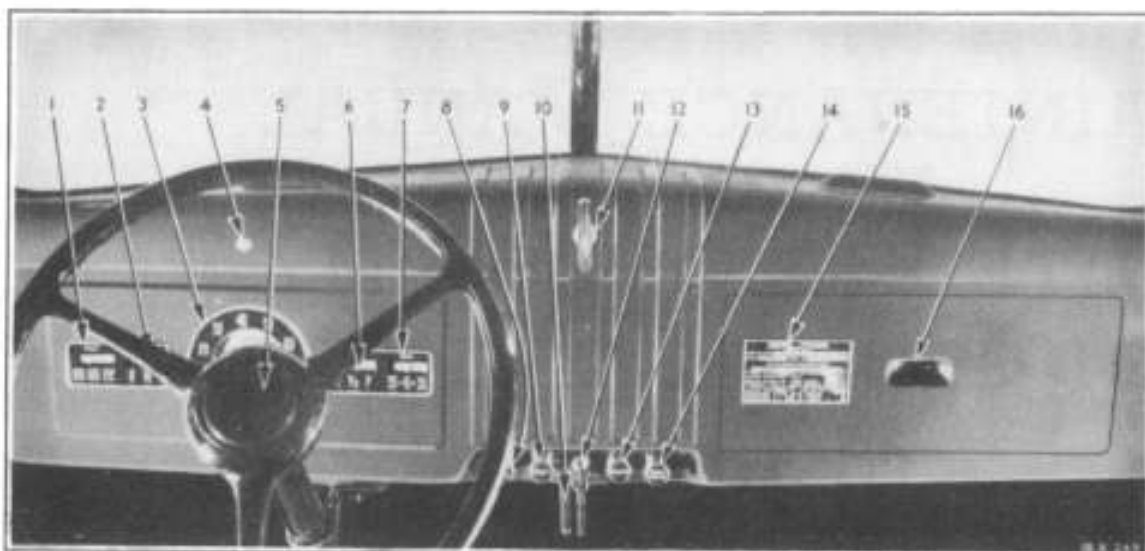
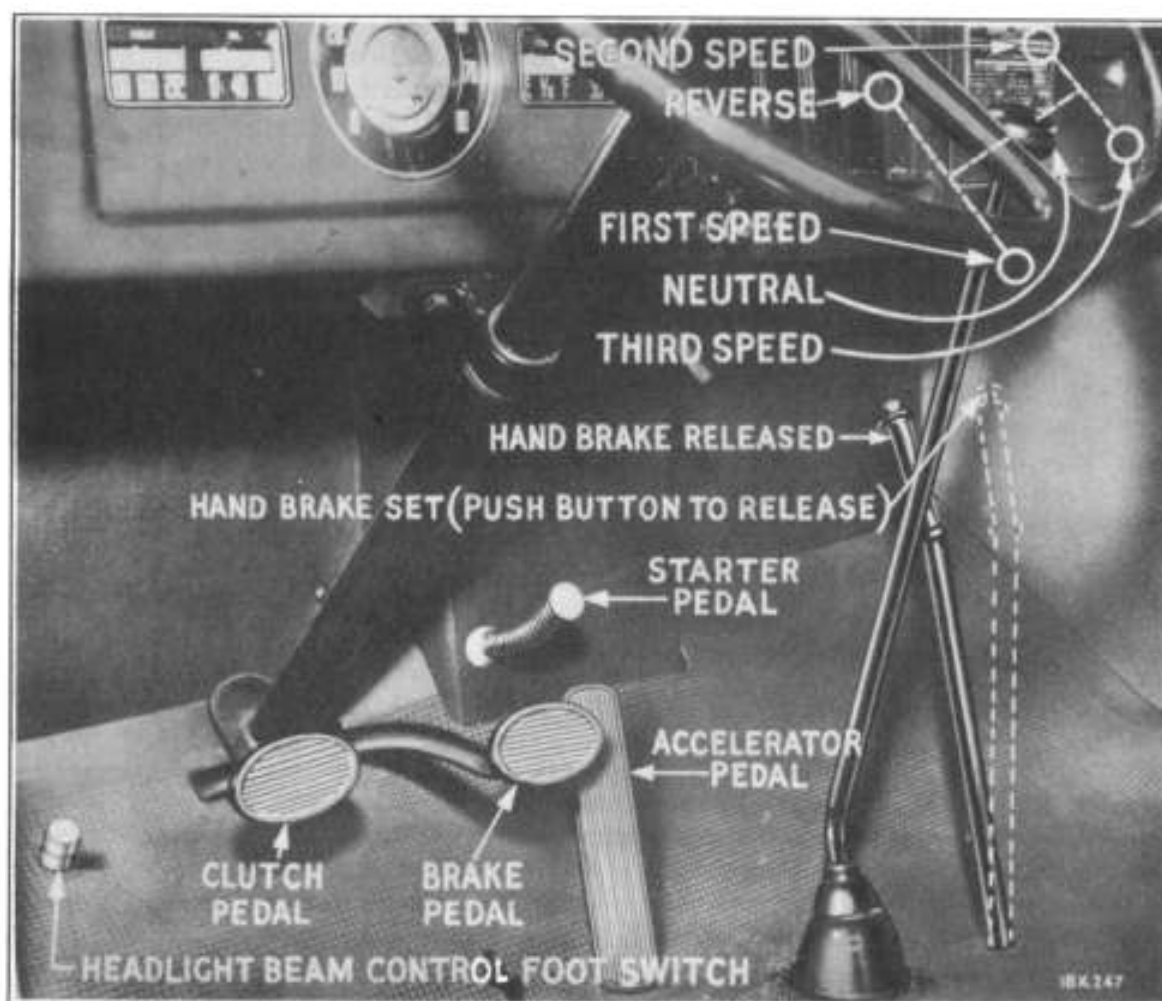

Fig. 1—Instrument Panel
Fig. 2—Front Compartment
The accompanying illustrations (Figs. 1 and 2), show the location of each control. By knowing the purpose of each control and how to use it, the driver who is unaccustomed to driving a Dodge 4 x 2 Army Truck will find it easier to follow the "Operating Instructions" contained in this section of the Manual.
The ignition lock switch (12, Fig. 1), can be operated only when the key is inserted and turned to the right (clockwise). In this position the ignition and fuel gauge circuits are connected. The key cannot be removed unless the thumb piece of the key is vertical.
The choke control button (9, Fig. 1), closes the choke when the control button is pulled "out" to the limit of its travel. Pull the choke control "out" when starting a cold engine and gradually push it in as the engine becomes warm. Always run the engine with the choke button pushed in after the engine has reached normal operating temperature. Excessive use of the choke causes a flooding condition in the engine and excess fuel works its way past the pistons into the crankcase diluting the engine oil. It also increases fuel consumption unnecessarily.
The hand throttle control button (13, Fig. 1), is for use when starting the engine. It can also
The accelerator pedal (Fig. 2), is used to control engine speed with the foot while driving the truck.
This foot pedal (Fig. 2), is for operating of the starting motor which cranks the engine. It is located above the accelerator pedal so that it can be easily reached for starting the engine.
Pressing the clutch pedal (Fig. 2), down to the floor board, disengages the clutch so that the transmission gears may be shifted.
This lever (Fig. 2), controls the shifting of all gears in the transmission. The diagram in the illustration shows the different positions of the lever for various gear selections in the transmission.
The hand brake (Fig. 2), is used principally for holding the truck while parked. When parking on a grade, turn the front wheels off the straight-ahead position. The hand brake is released when the lever is in the extreme forward position and applied when moved back toward the seat. When pulled back, the lever will lock in position but may be released by pressing the release button (on top of the lever) down and pushing the lever forward.
The brake pedal (Fig. 2), is used to slow down or stop the vehicle. See Subject 24.
This switch (8, Fig. 1), controls the headlights, parking lights and tail light. Pull button out to its first stop to turn on parking lights and tail light. When the button is pulled all the way out to the limit of its travel, the main headlights and tail light are turned on.
The instrument panel lights may be turned on by pulling this switch (14, Fig. 1), out to the limit of its stop.
This foot switch (Fig. 2), controls the high and low beams of the headlights. (The switch operates only when the headlights are turned on by the hand operated switch on the instrument panel.) Press the button with the foot to raise or lower the headlight beams. The switch locks each time the button is pressed. A red indicator (4, Fig. 1), on the instrument panel is illuminated only when the high beam is turned on.
The oil pressure gauge (2, Fig. 1), should register about 15 pounds pressure when the engine is running at slow idle speed, but at speeds above 30 miles per hour, the gauge should show from 30 to 45 pounds pressure.
The ammeter (7, Fig. 1), registers rate of charge or discharge of the battery. In other words, it indicates the charging condition of the generator and the consumption of electricity in the system. When the electrical units are drawing more electricity than the generator is charg-
The heat indicator (1, Fig. 1), shows the temperature of the water in the engine above 100°F. Never warm the engine quickly by running it fast just after starting. When driving, glance at the heat indicator occasionally to see that it does not register too hot. If it registers 200 degrees or more, the engine is too hot and should be stopped. Usually this is caused by insufficient water in the radiator, broken or loose fan belt. Whatever the cause of overheating may be, have the condition corrected before continuing to drive the truck.
The fuel gauge (6, Fig. 1), operates when the ignition switch key is turned to the right (clockwise). It is electrically operated and indicates the level of the fuel in the tank. The letter "E" means empty, the letter "F" means full and "1/2" sign means half full.
- (a) Press the clutch pedal (Fig. 2), down to the floor, then move the transmission gear shifting lever to 1st speed position. Next, press the accelerator (Fig. 2), to speed up
- (c) To shift into reverse, depress the clutch pedal and move the gearshift lever to the position shown in Fig. 2. Then release the clutch pedal, and press the accelerator pedal at the same time until the desired speed is attained.